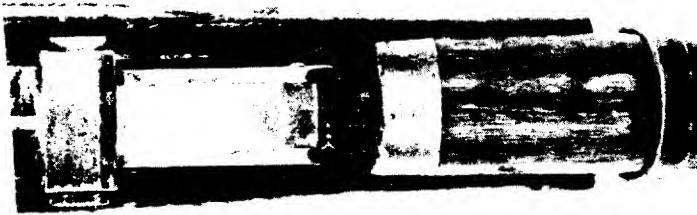

FIGURE 31. REAR RAMP SIGHT FOR CARBINE M1938.
- b. The rear ramp sight (fig. 31) is similar to the rear ramp sight of the rifle M1891/30, except that it is shorter and is graduated from 100 meters to 1,000 meters (110 yards to 1,100 yards).
The hooded post-type front sight of the carbine M1938 is very similar to the front sight of the rifle M1891/30, but is mounted on a barrel band. The curved-ramp tangent-type rear sight is also very similar in construction to that of the M1891/30; however, it is graduated from 100 to 1,000 meters (110 to 1,100 yards) (fig. 31).